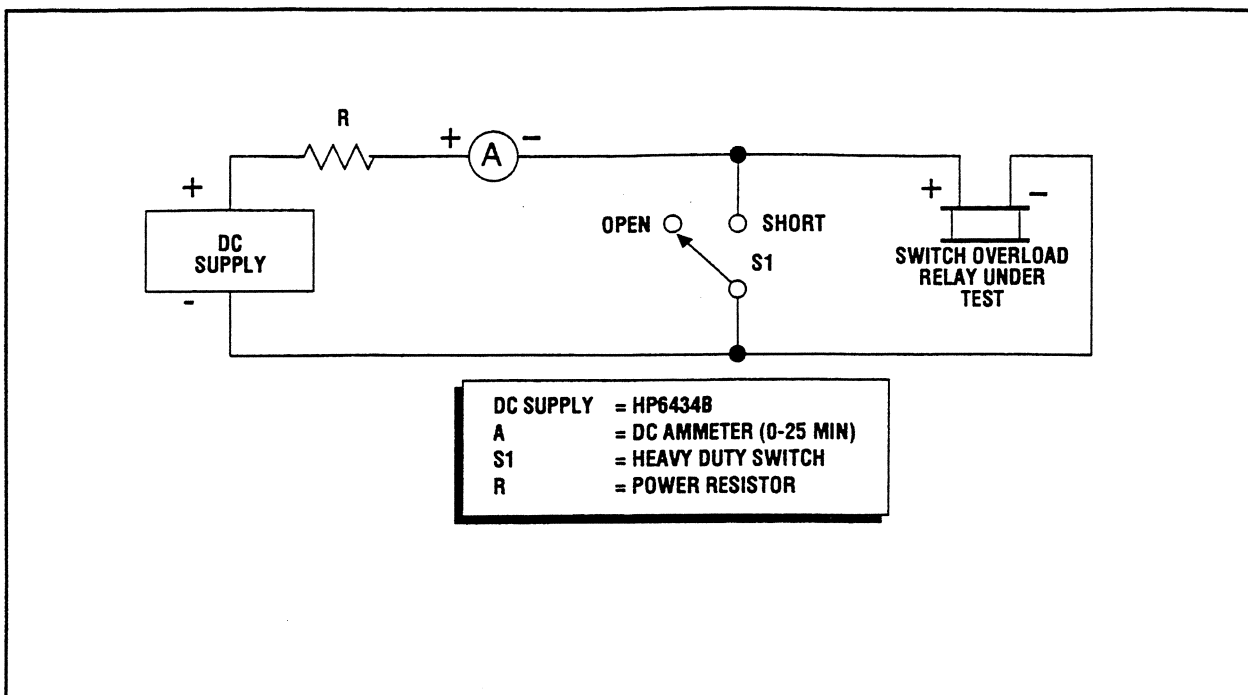

Figure 3-6. Switch Overload Stick Relay, Test Setup
- Connect the test setup as shown in Figure 3-6.